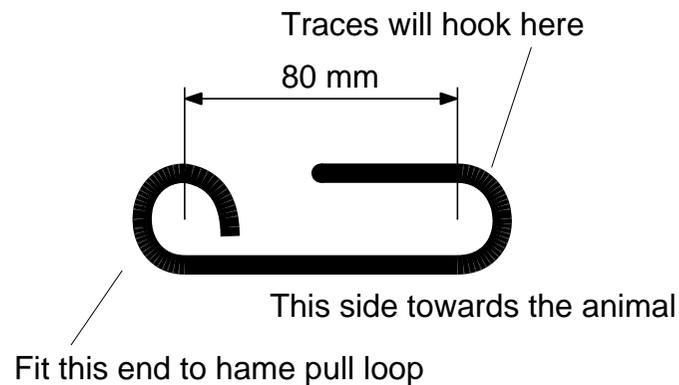

Figure 6: chain hooks for straps.
- 5) It may be easier to fix the saddle to the rest of the harness if you make up two of the hooks shown in Figure 6 and fit one to each end of the chain.
- 2) Using two of the hooks shown in Figure 6 attach the belly strap. It should be quite tight so that it does not move during work.